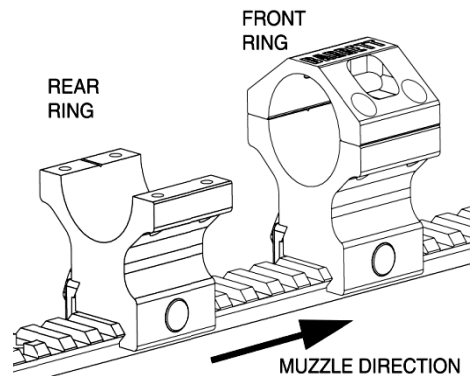

Figure 2-2
1. Remove one of the scope ring caps and place the scope rings on the 1913 mounting rail eight slots apart with just the ring base towards the rear. From side view, four complete mounting ridges will be visible. Hand-tighten the clamp nuts on both rings ensuring a stable work platform (proper eye relief may be achieved later by moving the entire assembly). Figure 2-2.